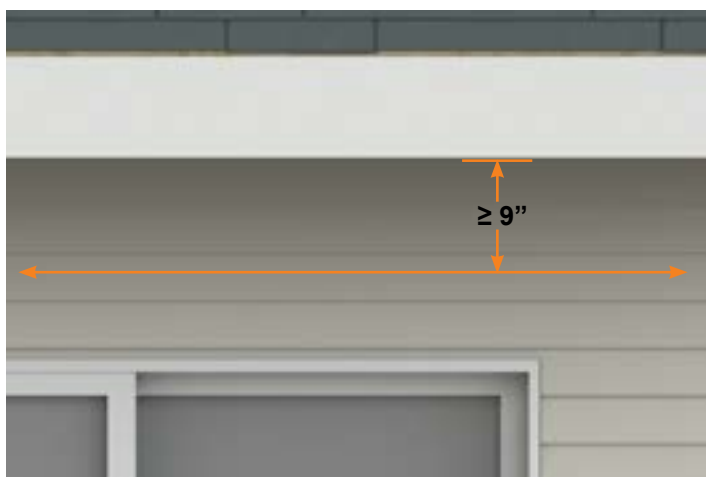

Fig.8
- There must be at least 9” of unobstructed, uninterrupted space above the entire length of the mounting line (Fig. 8). This space is allotted for the awning itself. This 9” may butt against or rest atop windows and/or patio doors so long as the 9” is not obstructed or interrupted for the entire length of the awning.